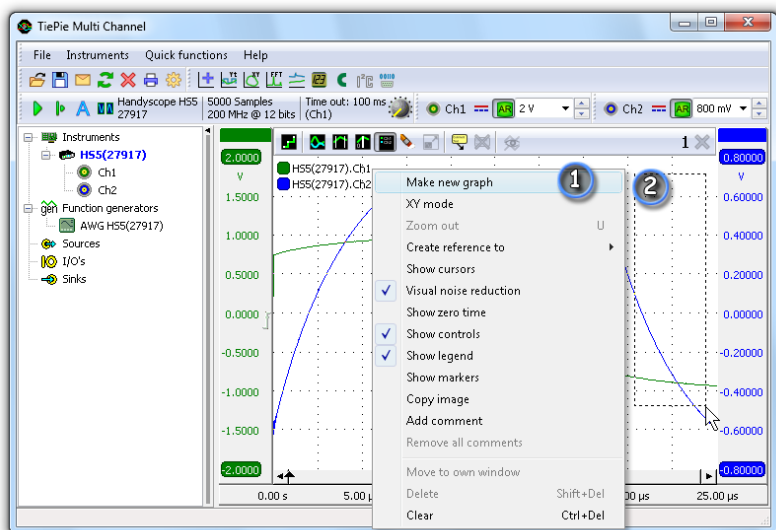

Figure 3.1: Create a new graph in two steps
- ① Right-click anywhere in a graph on the main screen and select ***Make new graph*** from the menu.
- ② After dragging a rectangle anywhere on the graph section, a new graph will be created on the selected position. See figure 3.1.